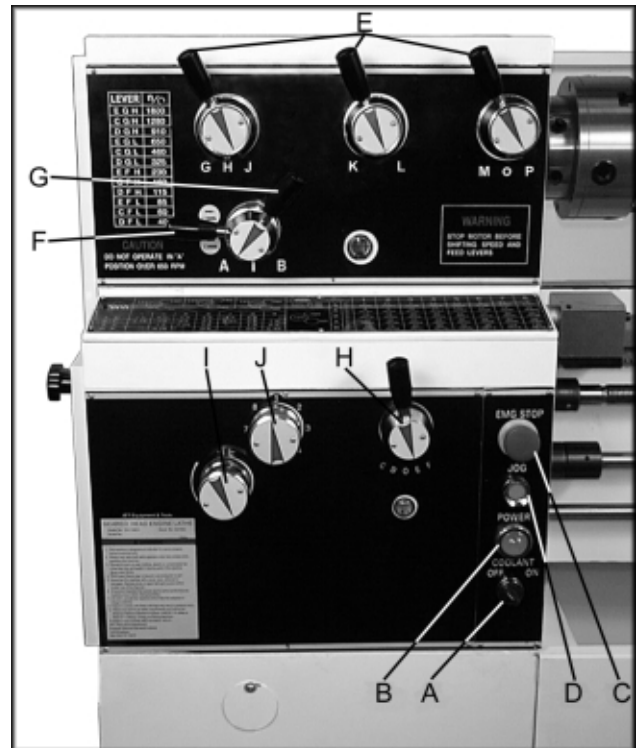

Fig. 13
3. **Leadscrew/Feed Rod Directional Lever** (F, Fig. 13) - located on front of headstock. Moving the lever up causes carriage travel toward the tailstock. Moving the lever down causes carriage travel toward the headstock. When chuck is spinning in the forward or counter-clockwise direction. **Do not** move lever while machine is running.
4. **Feed/Lead Selector Lever** (G, Fig. 13) - located on the front of the headstock. Used whenever setting up for threading or feeding.
5. **Feed/Lead Selector Lever** (H, Fig. 13) - located on the front of the gearbox. Used in setting up for feeding and threading. Positions "F" and "D" are for the feed rod. Positions "E" and "C" are for the feed screw. Position "0" is neutral.
6. **Lock Knob** (I, Fig. 13) - located on the front of the gearbox. With the knob in the six o'clock position, feed/lead selector knob (J, Fig. 13) may be adjusted. With the knob in the twelve o'clock position, the feed/lead selector knob (J, Fig. 13) is locked.
7. **Feed/Lead Selector Knob** (J, Fig. 13) - located on front of the gearbox. Used for setting up for feeding and threading.